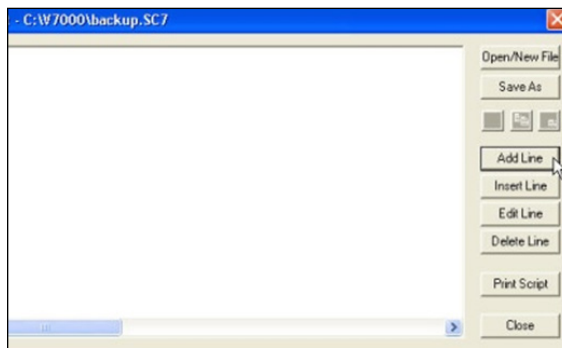

Figure 28: Creating Scripting Line
5. Click **Add Line** to create a scripting line. Refer to **Figure 28**.